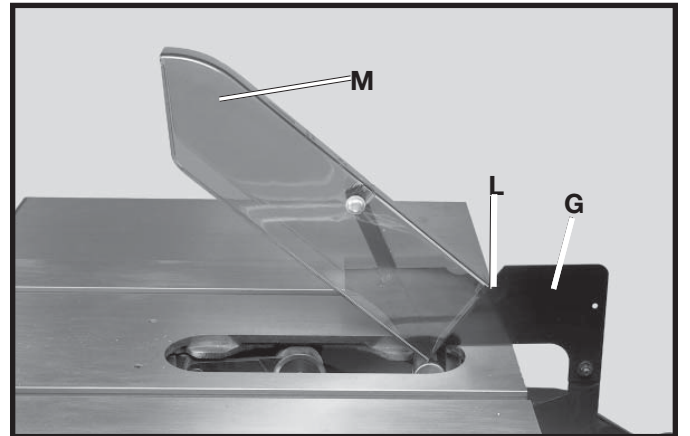

Fig. 49
IMPORTANT: The splitter (G) Fig. 49, has a notch (L) cut in the top edge as shown. This feature will enable the blade guard to stay in the raised position to make blade changing easier. Raise the front of blade guard (M), until the rear edge of the blade guard slips into notch (L) of splitter (G); the blade guard will stay in this position. This feature only works when the table insert is removed.